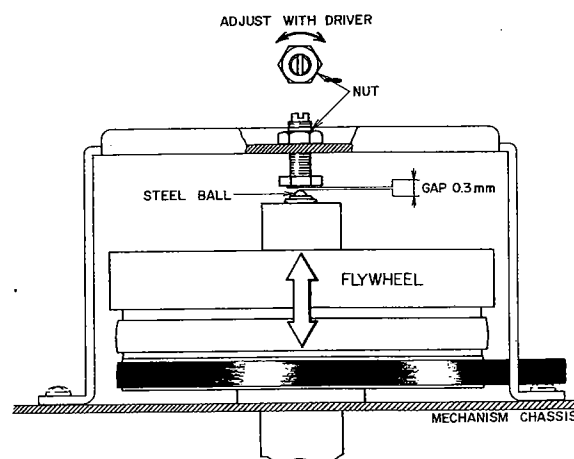

Fig. 8
4. FLYWHEEL LOOSE PLAY ADJUSTMENT (Refer to Fig. 8)
With a minus screw driver, turn bearing to left and right and adjust so that when the flywheel is moved as indicated by the arrow mark in the figure, the gap between the steel ball and flywheel supporting plate is 0.3 mm as shown in Fig. 8. Fix at this position with nut.